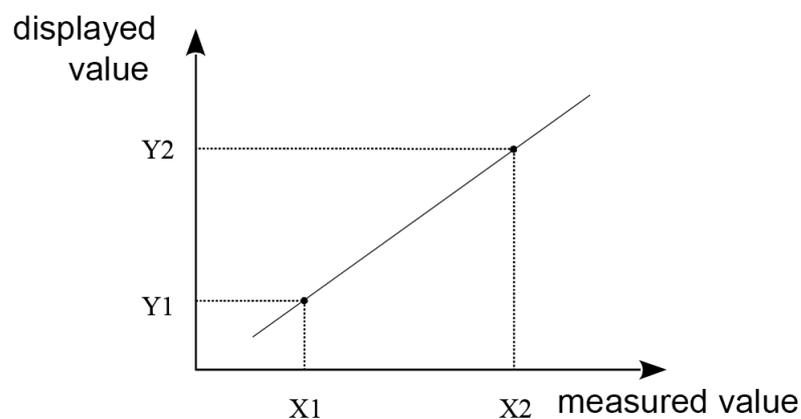

Fig. 8. Individual characteristics
d) Enabling the individual characteristics. The factory default is off. The configuration of the individual characteristics consists in defining the points of the linear characteristics used to convert the measured value into the displayed value (Figure 8).